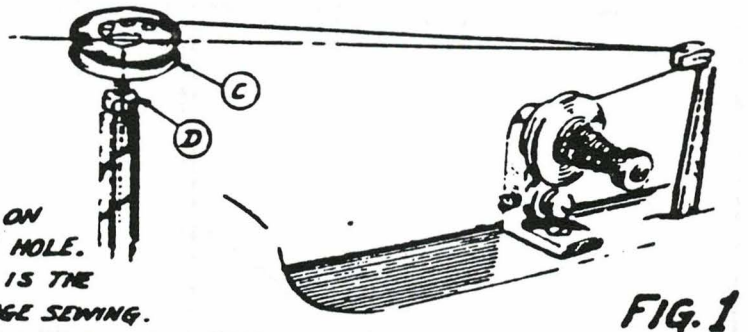

FIG.1
TO ADJUST FOR MORE OR LESS THREAD, LOOSEN NUT (D) FIG.1, AND SWING DISC (C) IN THE DIRECTION SHOWN FOR THE DESIRED RESULT.
DISC ADJUSTMENT SHOWN IN FIG.1 IS THE MOST DESIRABLE LOCATION FOR AVERAGE SEWING.